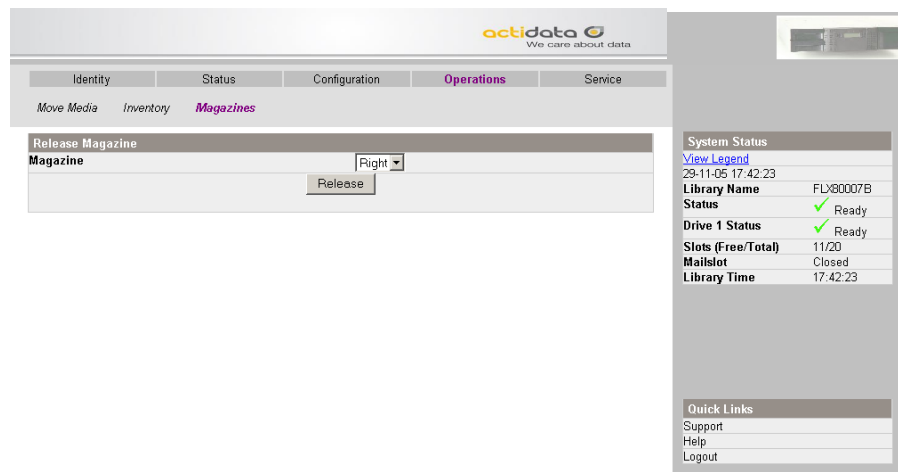

Figure 68 Operations, Magazine page
- This page (see Figure 68) allows the user to release the right or left magazine from the Library.